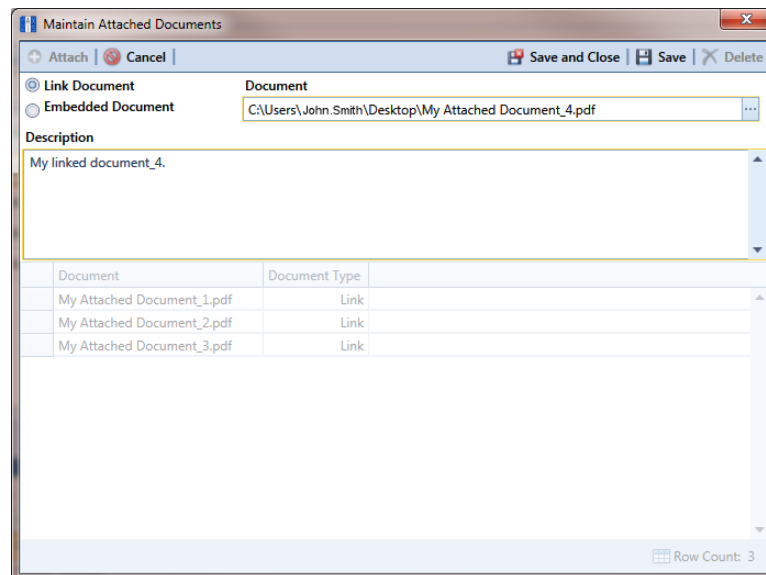

Figure 4-26. Maintain Attached Documents
- 6 When the *Maintain Attached Documents* dialog box opens, click  **Attach** and then select one of the following options (Figure 4-26, page 125):
- 7 If you selected *Link Document* in step 6 and want to link to a file on a local computer or company network, follow these steps (Figure 4-26):